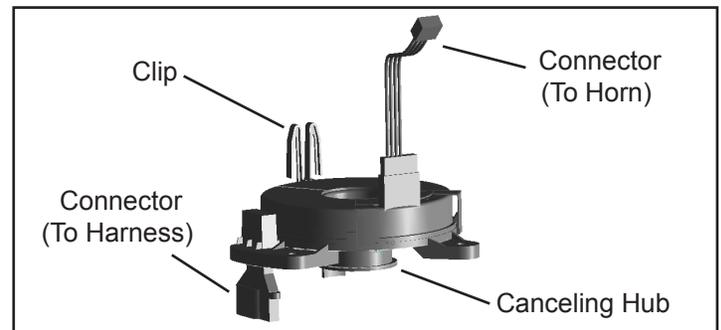

Figure 14 Clockspring
Clocksprings can be one of two types, either “canceling” or “non-canceling”. A “canceling” clockspring cancels, or turns off the turn signal when the steering wheel is turned, whereas a “non-canceling” clockspring requires the driver to manually cancel the turn signal upon completion of the turn. To convert to a non-canceling assembly, remove the canceling hub by gently pulling and rocking the hub to disengage the three locking tabs. *Refer to Figure 14.*
9. Connect the clockspring electrical connector on the bottom of the housing to the wire harness. *Refer to Figure 14.* An audible “click” ensures the connector is secure.